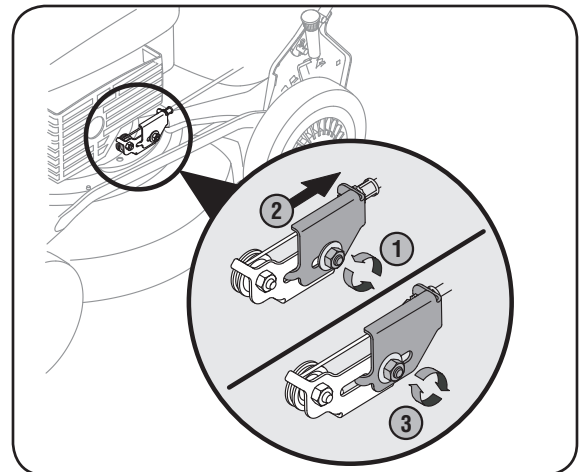

Figure 12
1. Loosen the hex nut which secures the adjustable cable bracket. See Figure 12.